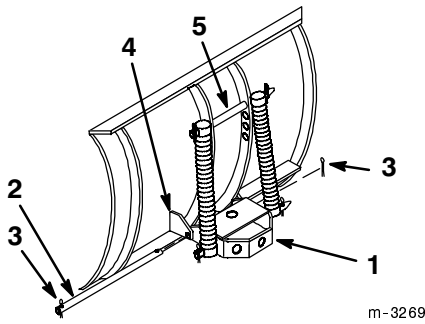

Figure 2
2. Slide the rod through the holes and secure it with two 1 in. (26 mm) cotter pins (Fig. 2).